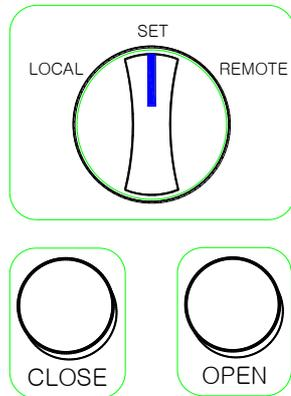

Figure 3.7 [Full Open Setting]
- 1) Set the **selector switch** on the MHPWS-QNN to **SET MODE** as shown in **Figure 3.7** and press the **OPEN** button to ensure that the valve is fully open.